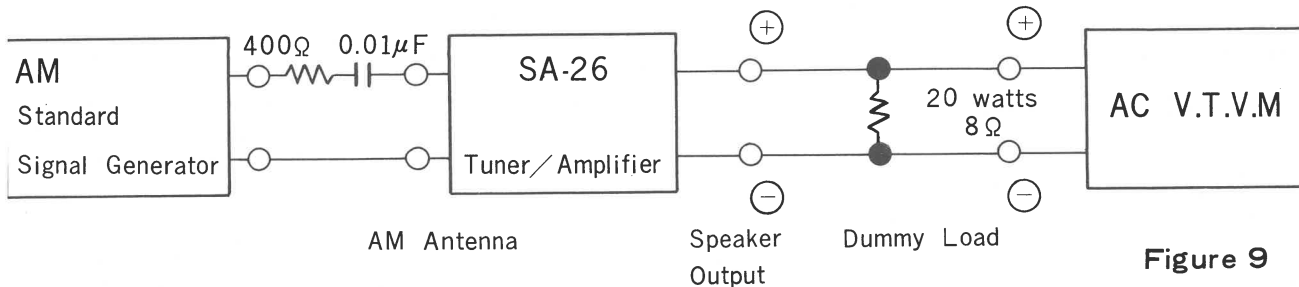

Figure 9
Set SELECTOR switch to AM. Set VOLUME control to proper position. Connect AM standard signal generator (400 Hz, 30% modulation) and other equipment as shown in Figure 9.
**ALIGNMENT PROCEDURE (See Figure 8 and Figure 9)**